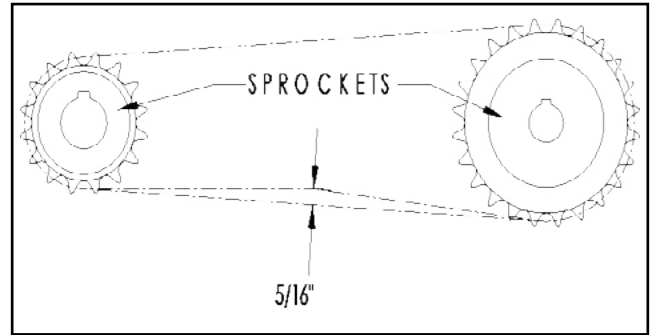

Figure 4
1. Position and install Spinner Hopper (1) to rear of spreader using supplied hardware.
2. Loosen Bearing hardware (2) and adjust shaft as necessary to install and tension Drive Chain. See Figure 4.
1. Position and install Wrap Panel (1) to rear of spreader using supplied hardware.
3. Align Mounting Ears of Hopper (3) with Wrap Panel (1) and secure by installing Spinner Rod (4) on one side and secure with Hairpin (5).
4. Loosen Lower Spinner Shaft Bearing hardware (6) and align Lower Spinner Shaft with Upper Shaft (7). Rotate Lower Shaft as necessary to couple shafts.